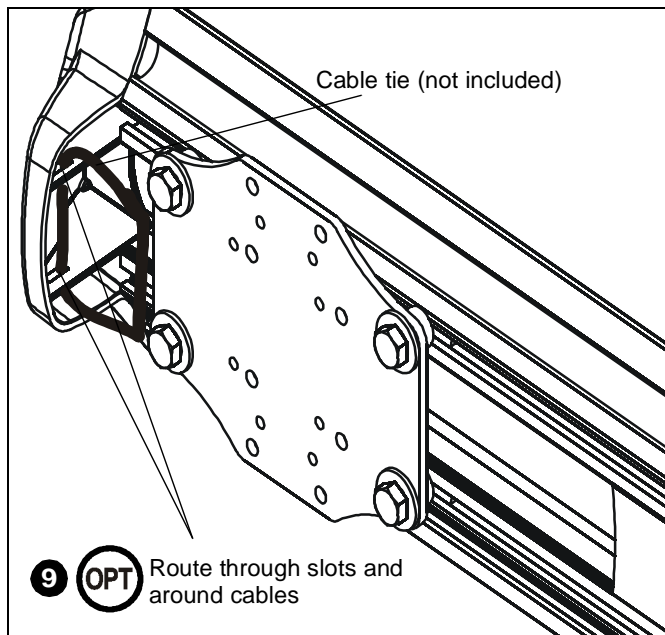

Figure 60
9. **(Optional)** Cables can be tied to inside of mount's front cover using cable ties (not included). Route cables near front cover and wrap cable tie through slots on front cover and around cables. (See Figure 60)